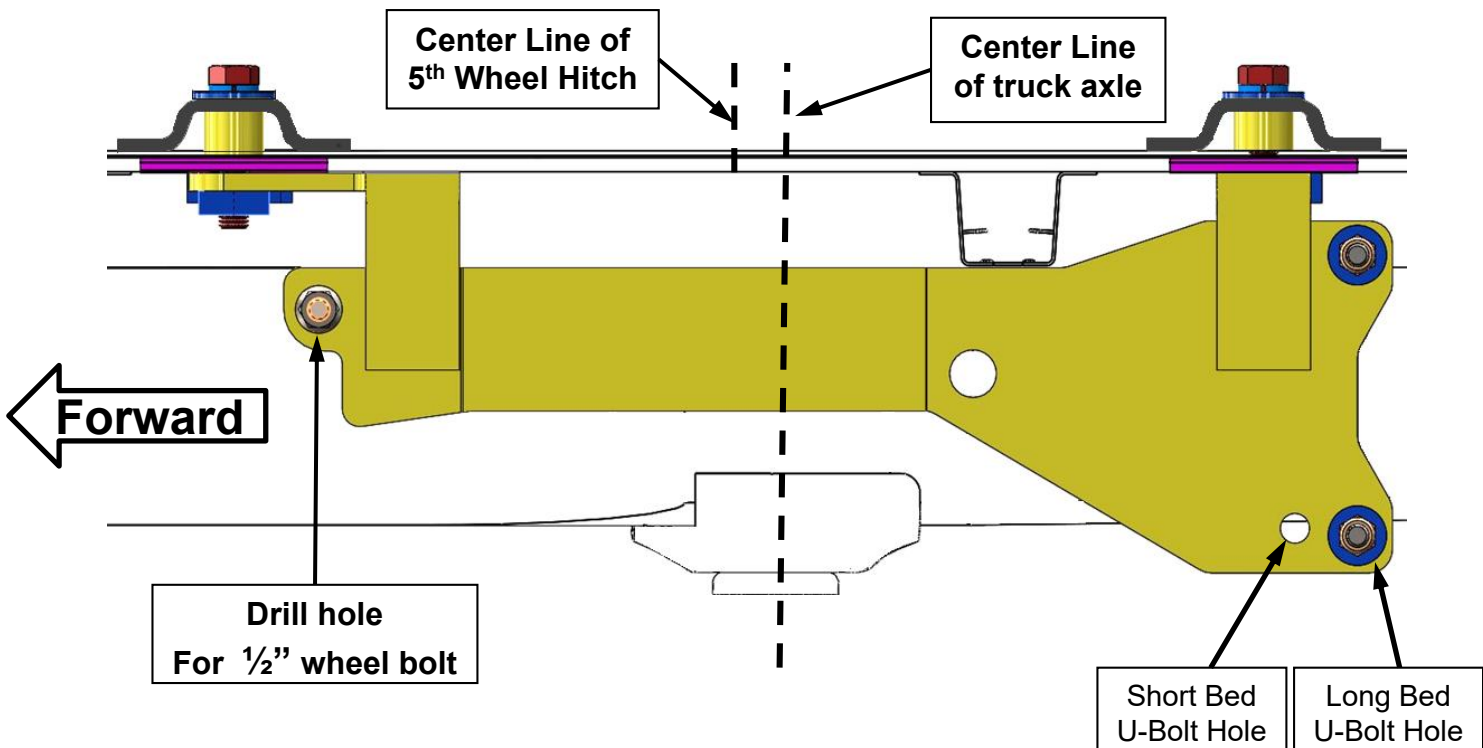

Figure:3
8. On most applications, the 5th wheel assembly should be positioned so that it is approximately centered over the truck axle and between the wheel wells on the bed floor. See Figure 3 on page 3.
12. Place U-Bolt (#11) around the truck frame at about 12" behind rear axle shown in Fig.1(Parts Diagram). For U-Bolt holes to be used for long bed or short bed, see Fig.3. on page 3. Be careful to get drivers side
- At the front attachment point, drill a 17/32" hole through the side of the truck frame using the hole in each frame bracket as a guide as shown location in fig.3